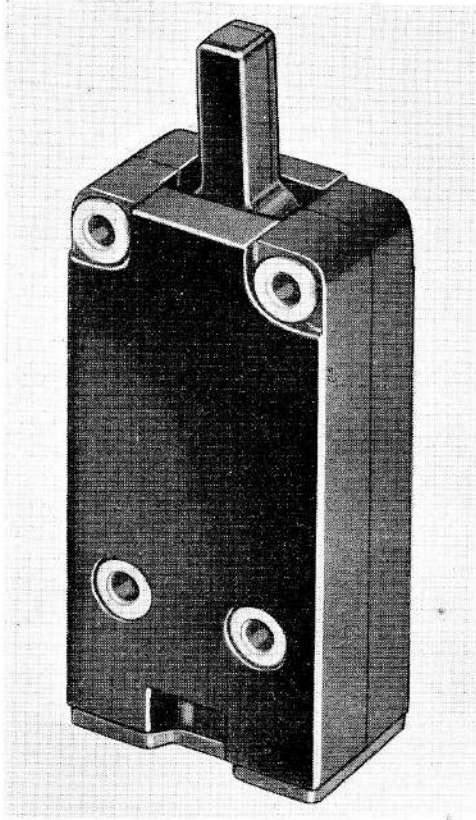
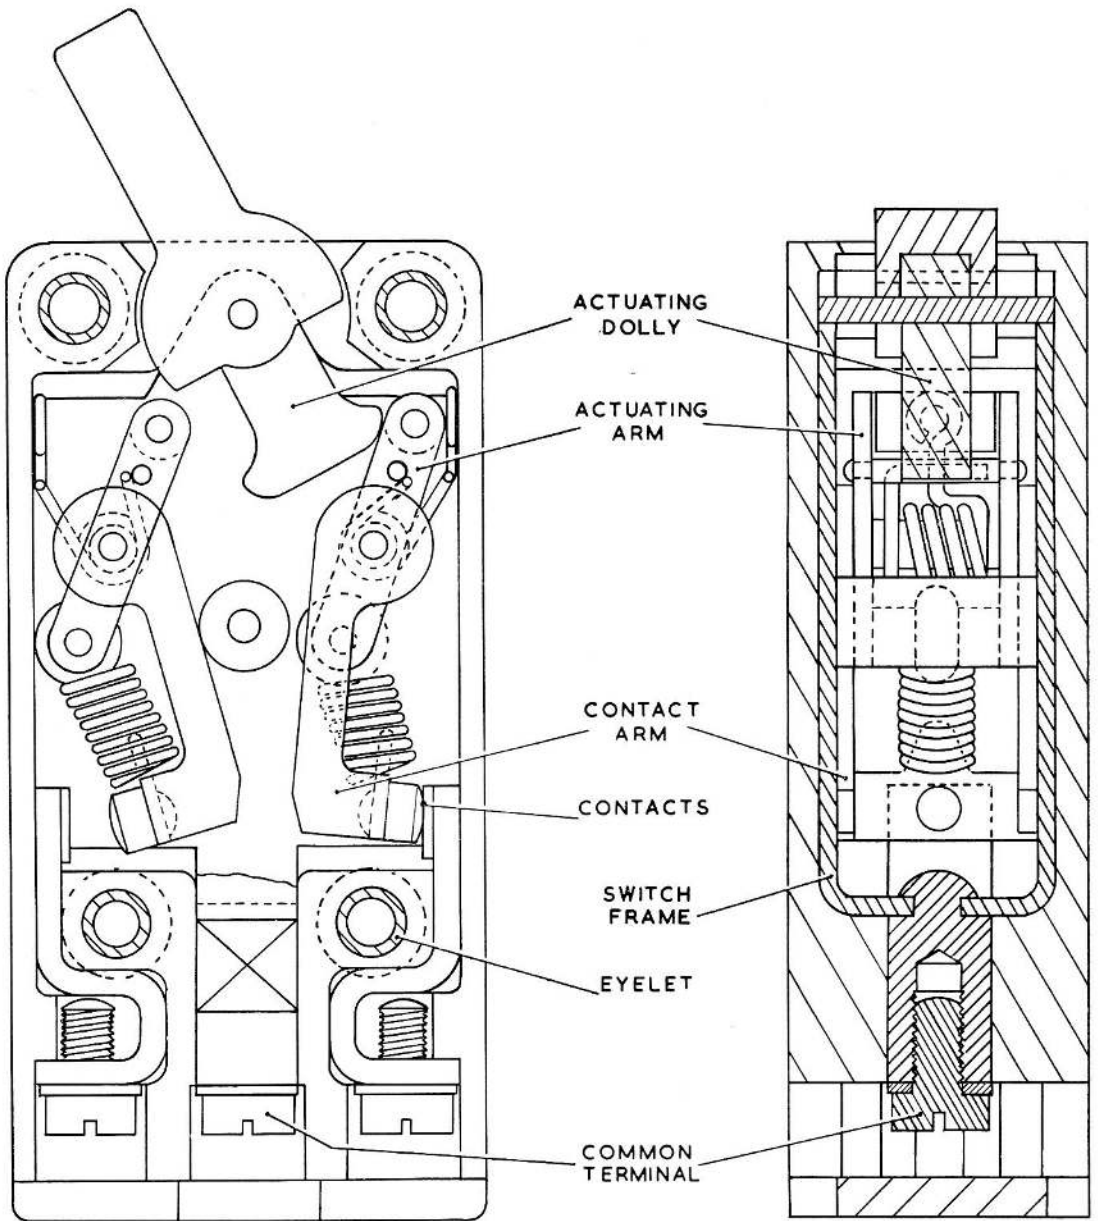

Fig. 1. Typical D7900 series switch
Fig. 2. Switch details
2. A typical switch in the series is illustrated in fig. 1 and 2. All the moving parts of the switch (fig. 2) are set between the two side plates of a switch frame assembly. The dolly with its actuator is pivoted at the top while at the bottom, a common terminal post is fitted. The two moving contact linkages are situated on either side of a central spacing post. Each linkage consists of an actuating arm, which engages the actuating dolly through a roller and is kept against the dolly by a torsion spring, and a moving contact arm. These